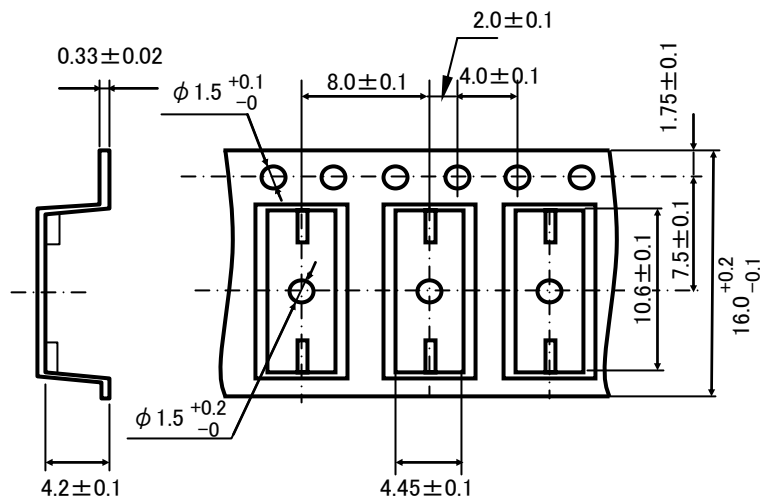

Figure 2 Tape Forms
- (1) Tape material: Plastic
(2) Dimensions: The tape dimensions are as shown in Figure 2.